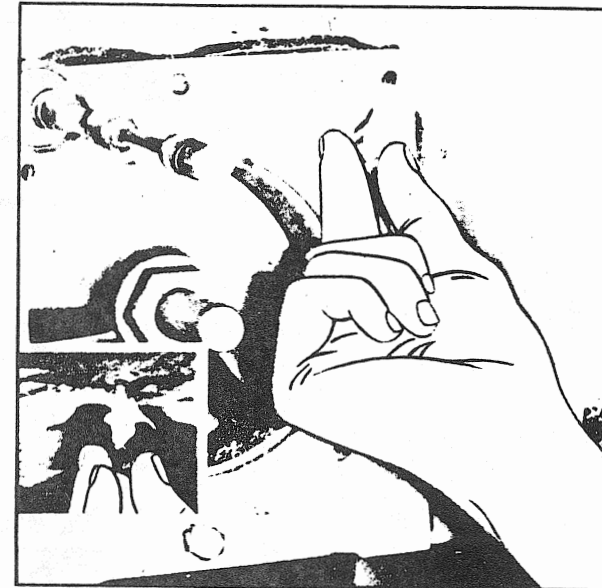

FIGURE 34
- Insert bolts, silicone rubber covered and lightly secure (fig. 34). **Do not forget to reinstall syphon filters on the third bolts from rear of suction piece inside the hull.**